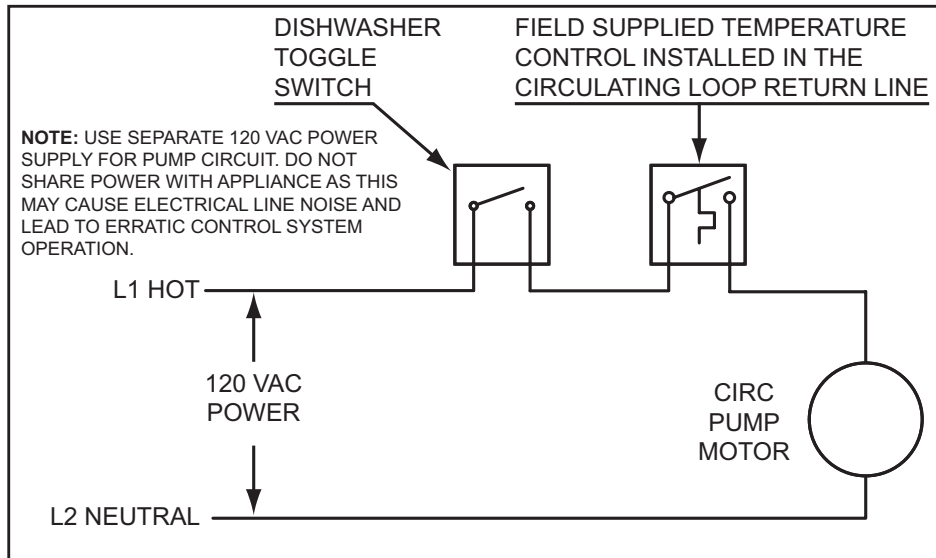

Figure 63
7. If a pump is being installed in a recirculation loop between the water heater and a commercial dishwasher wire according to Figure 63 on page 68.